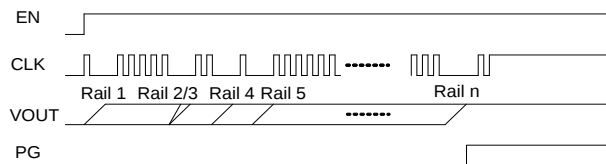
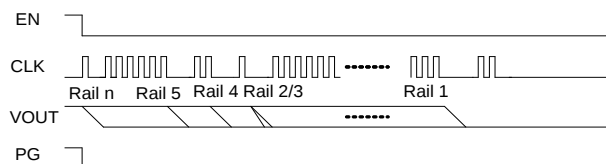

Figure 4: Soft Start when CLK Pulls Down (Pausing)
Figure 5: Soft Shutdown when CLK Pulls Down (Pausing)
The CLK-based FLEX-timer sequence control scheme uses an initiator-target structure. The EN pins and CLK pins for all the PMICs are connected together for sequence control (see Figure 4 on page 18).
- If **CLK_PAUSE_EN = 1**, the initiator/target PMIC pulls the CLK pin down during the soft start/shutdown of any power rail(s). Figure 4 shows when CLK pauses during start-up. Figure 5 shows when CLK pauses during soft shutdown.